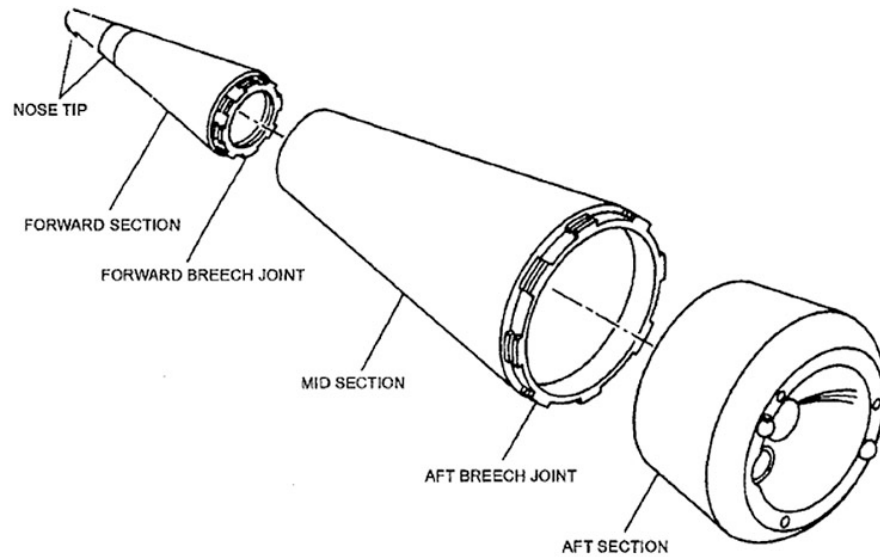

Figure 1-3. MK12A RV assemblies.
The MK12A RV is a major assembly of the MK12A reentry system (RS). It is mounted on the RS payload support covered by the shroud assembly (fig. 1-3). The RV consists of three basic sections: